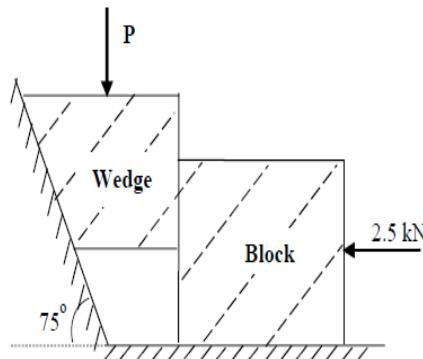

Fig.6
b) Determine the least force  $P$  required for moving the block shown in Fig.6 below. The weight of the wedge may be neglected. The weight of the block is 100 kN. The angle of limiting friction for all contact surfaces may be taken as  $15^\circ$ . **08**